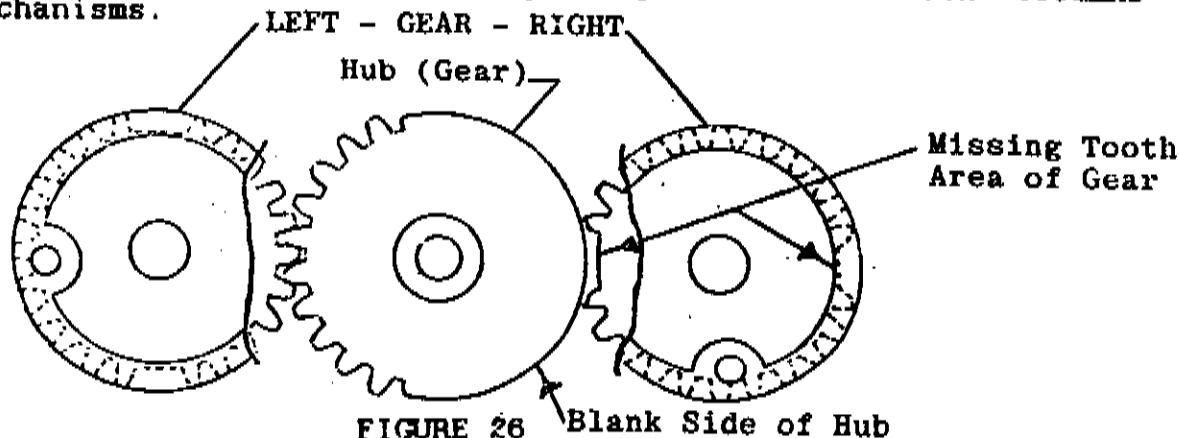

FIGURE 26
- 5) Run motor until teeth of installed gear and drive gear are engaged as shown in Figure 26.
- 6) Re-install second gear assembly, aligning either missing tooth area gear with blank side of drive gear. (See Figure 26)